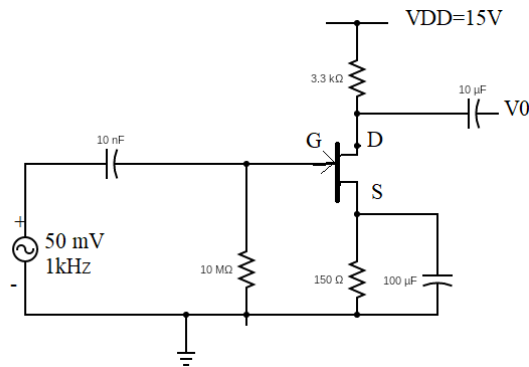

Figure 14.2: Circuit Diagram for Frequency response of CS FET amplifier
1. Connection is made as per the given Figure 14.2.